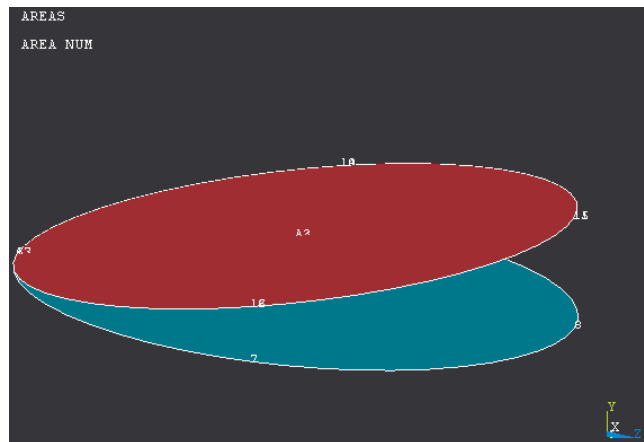

Figure 1 Helix construction areas
8. Repeat 3-7 for the second line (see Figure 1)